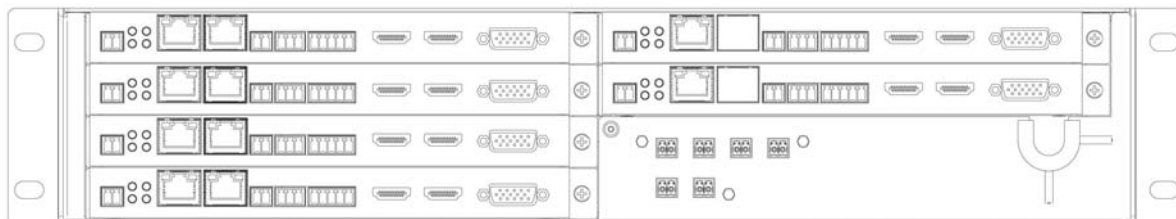

FIG. 8 Fully-Populated Card Cage
5. Repeat these steps until all cards are properly installed. See Figure 8.